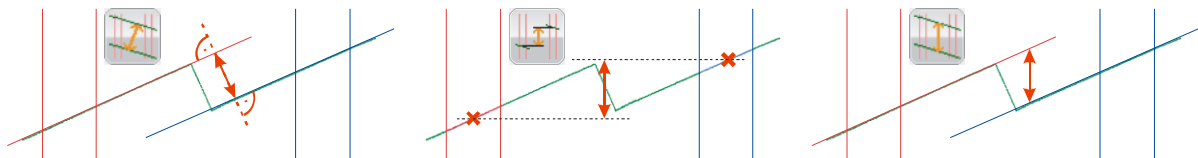

Fig. 4.16: Algorithms for height calculation
- Define the algorithm for the calculation of the height (see Fig. 4.16, Fig. 4.17 and Chapter 3.13.1):
- 1 Height type:** In this input field, select the algorithm for the calculation of the height (see Fig. 4.16) and invert the sign of the height, if necessary.